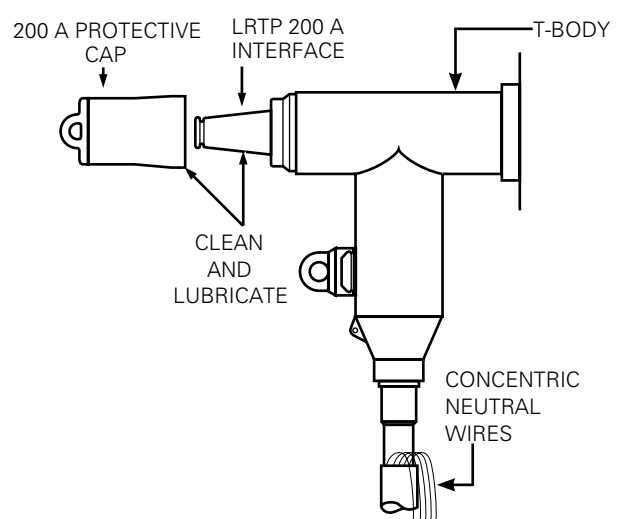

Figure 17. Line illustration of protective cap installation
- Clean and lubricate the 200 A interface of the L RTP and mating apparatus (i.e., Protective Cap, Grounding Elbow or M.O.V.E. Arrester) with lubricant supplied. (Refer to Figure 17.)